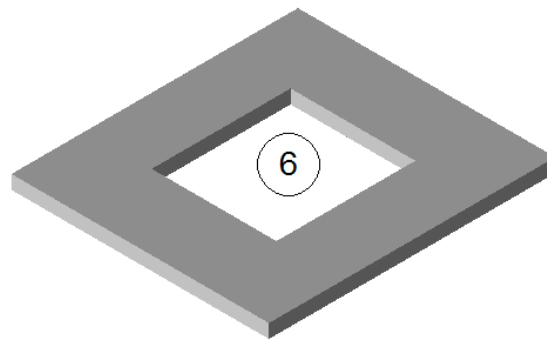

Figure 2. Supporting Construction – Concrete Floor/Ceiling
5. **SUPPORTING CONSTRUCTION:** Refer to Figure 2. Use a symmetrical, min. 2 hr rated solid concrete floor/ceiling assembly made from reinforced lightweight or normal weight concrete (100-150-pcf) with a min. thickness measured from exposed face to exposed face using one of the following: